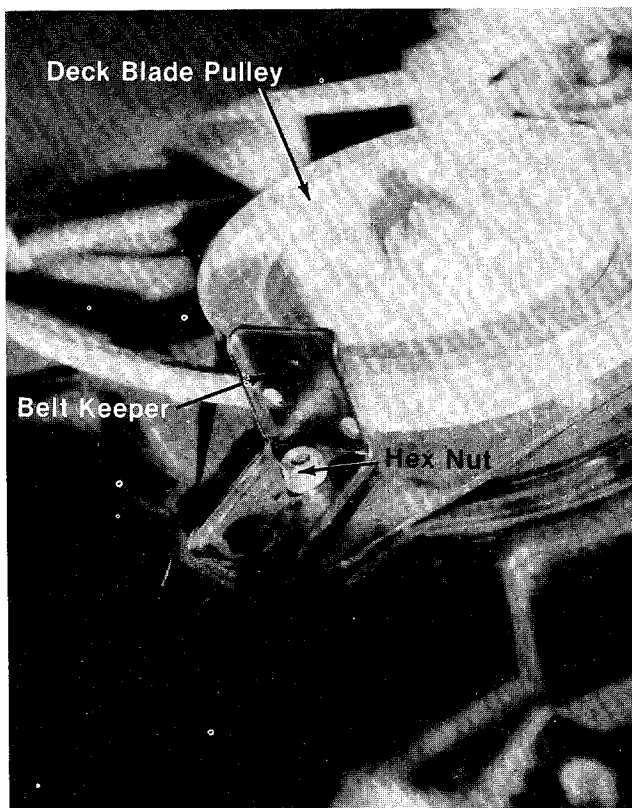

FIGURE 37.
5. Remove the belt keeper located at the right hand side of blade pulley on deck. A 1/2" wrench is required to remove the hex nut. See figure 37.